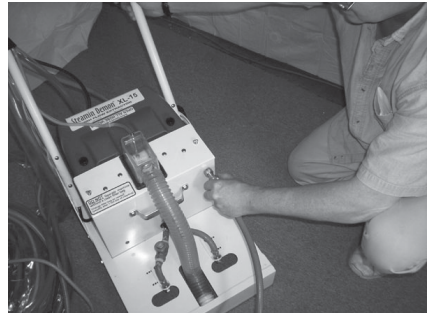

Figure 13: Snapping in prespray hose
1. First unroll the prespray hose. Then snap the hose quick connect into the prespray plug (fig. 13). Make sure the hose is completely uncoiled before snapping it into the prespray plug (fig. 13 and 14).